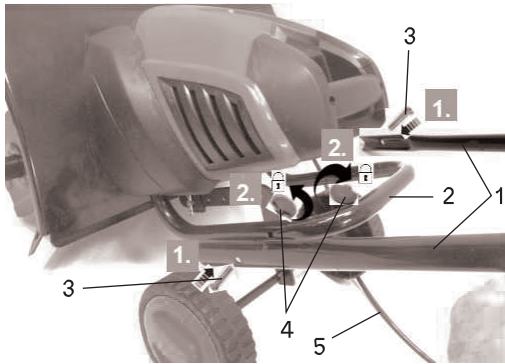

Fig. 4
1. Align two lower handlebars (1) with the handle support bar (2) (Fig. 4).
2. Pass the bolts (3) through the mounting holes (Fig. 4, step 1).
3. Secure the lower handlebars (1) by turning the knob (4) clockwise to tighten (Fig. 4, step 2).
4. Make sure that the control cord (5) is aligned on the upper side of the lower handlebar (1) (Fig. 4).